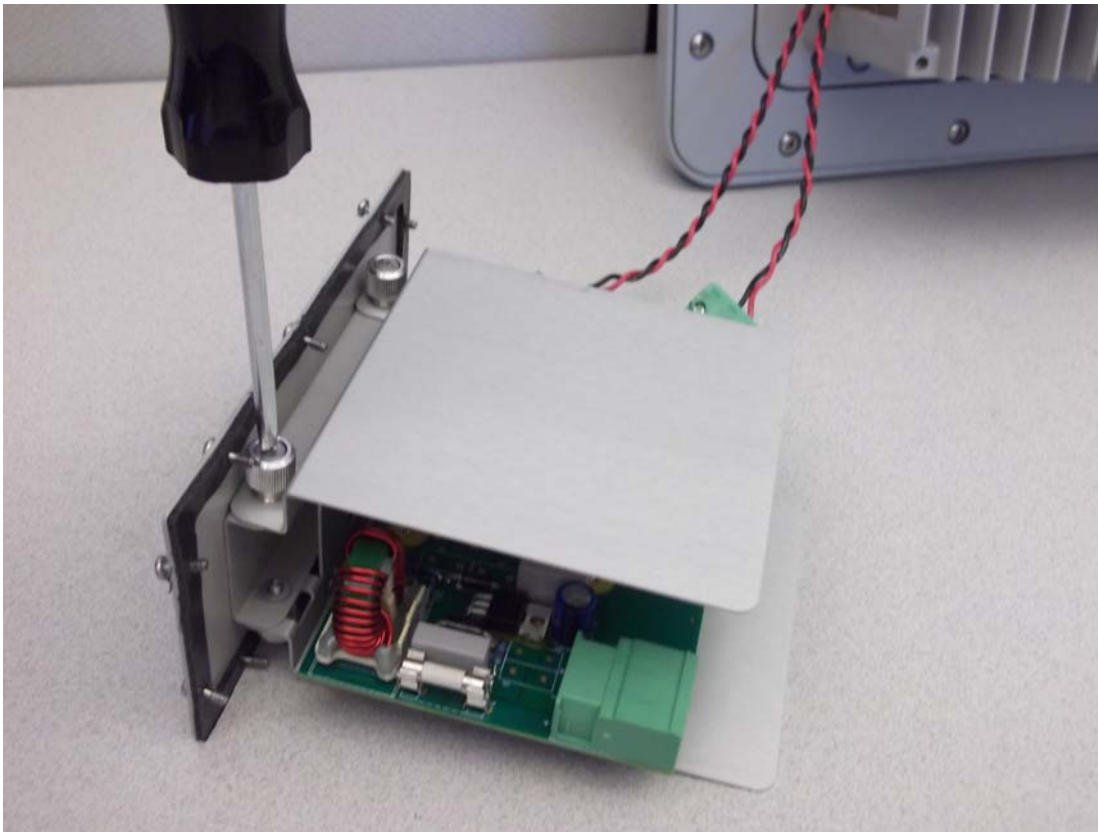

Figure 7.11 Loosen the Mounting Screws
5. Refer to Figure 7.11. Loosen the four (4) mounting bracket screws and remove the cover plate. The screws stay captured on the mounting bracket.